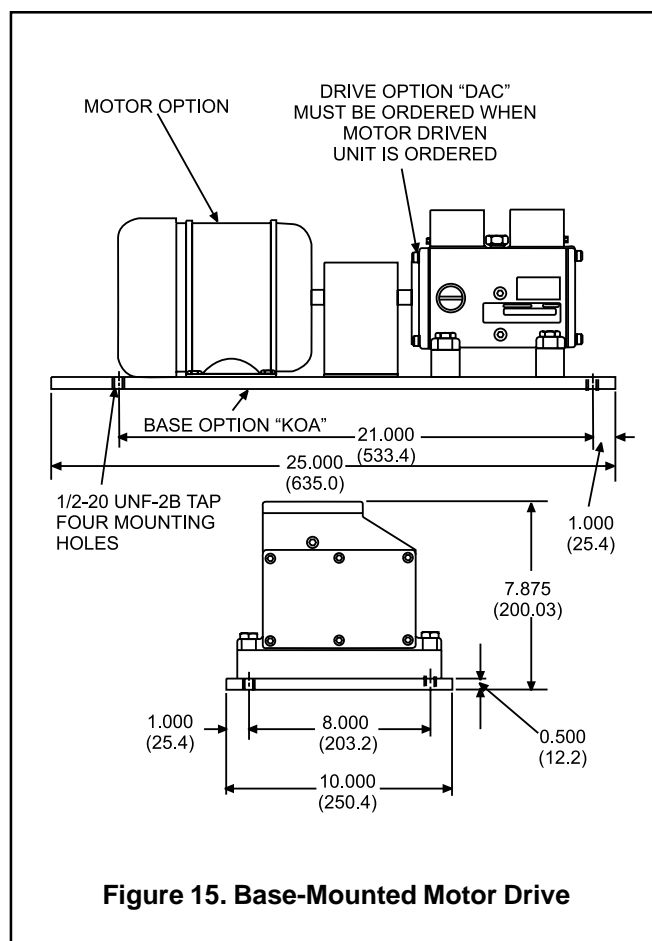

Figure 15. Base-Mounted Motor Drive
**Motor Drive.** A 1/4 Hp motor-driven gearbox is available directly from Lubriquip for remote location applications and prelubrication capability. The motor is available in 115/230 VAC single-phase (option MOA) or 230/460 three-phase (option MOB) ratings. A base (option KOA) is available to provide secure mounting for the motor and gearbox. Figure 15 shows a typical arrangement of motor and gearbox mounted on the base.